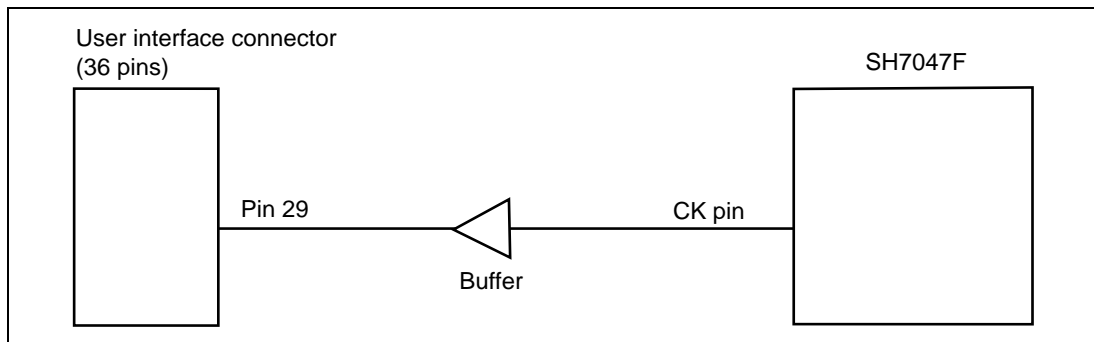

Figure 6.3 Circuit between User Interface Connector (36 Pins) and SH7047F
3. The CK pin is used by the emulator. When the CK pin is directly connected to the interface, operation may be affected by the load capacity and reflection of the interface cable. When the emulator is used, it is recommended that the CK pin between the user interface connector (36 pins) and the SH7047F is connected via the buffer (e.g., 74LVC125) as shown in figure 6.3. The buffer voltage should be Vcc.